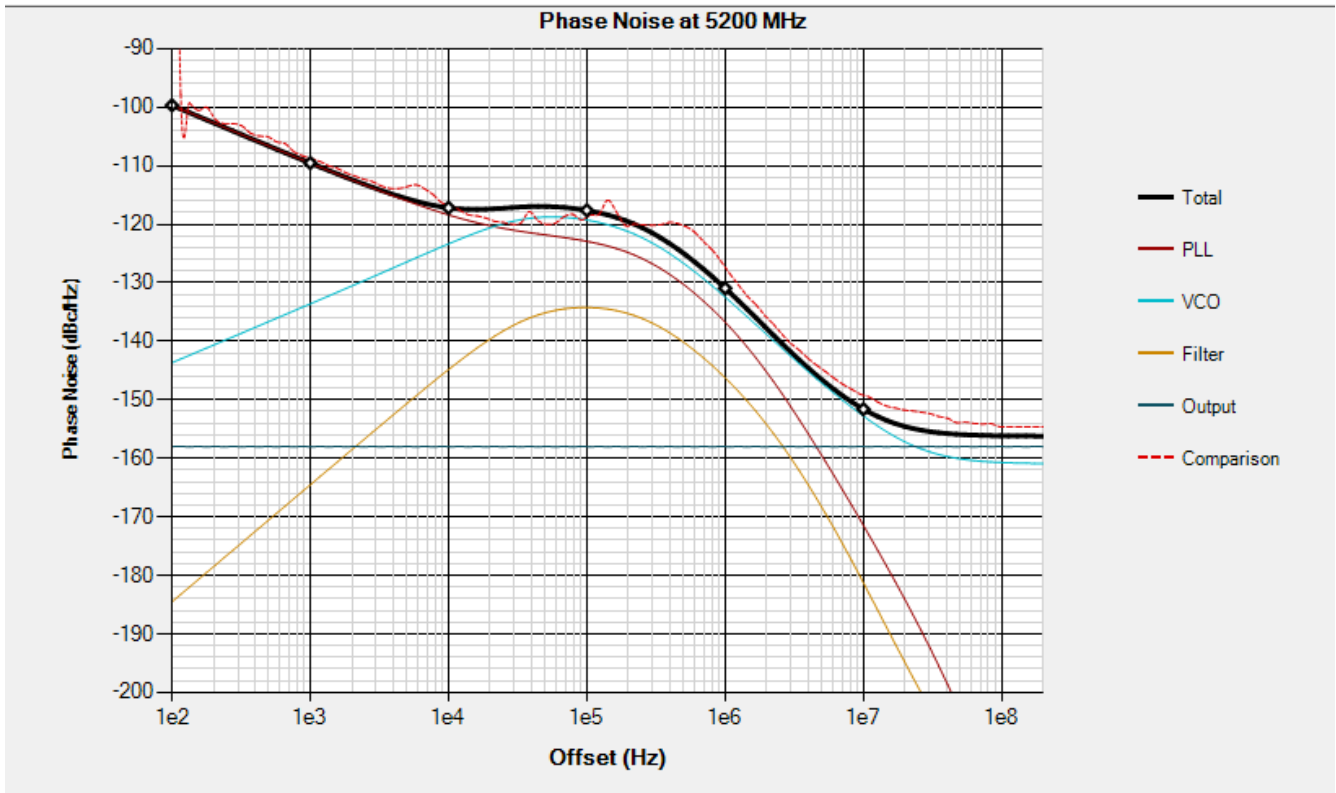

Figure 12-2. Loaded Comparison Trace to PLLatinum Sim to Complete Comparison Between Simulation and Measured Data
- Compare the simulated phase noise curve (black) with the measured phase noise curve (red, dashed). As can be seen on Figure 12-2, the black and red dashed line have the same phase noise.